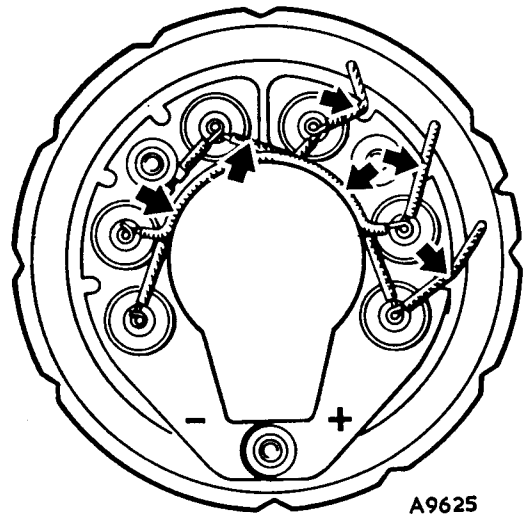

Fig. N.13
- (c) Arrange the connections neatly around the heat sinks to ensure adequate clearance for the rotor, and secure with a suitable heat-resistant adhesive (Fig. N.13). The three stator connections must pass through the appropriate notches at the edge of the heat sink.